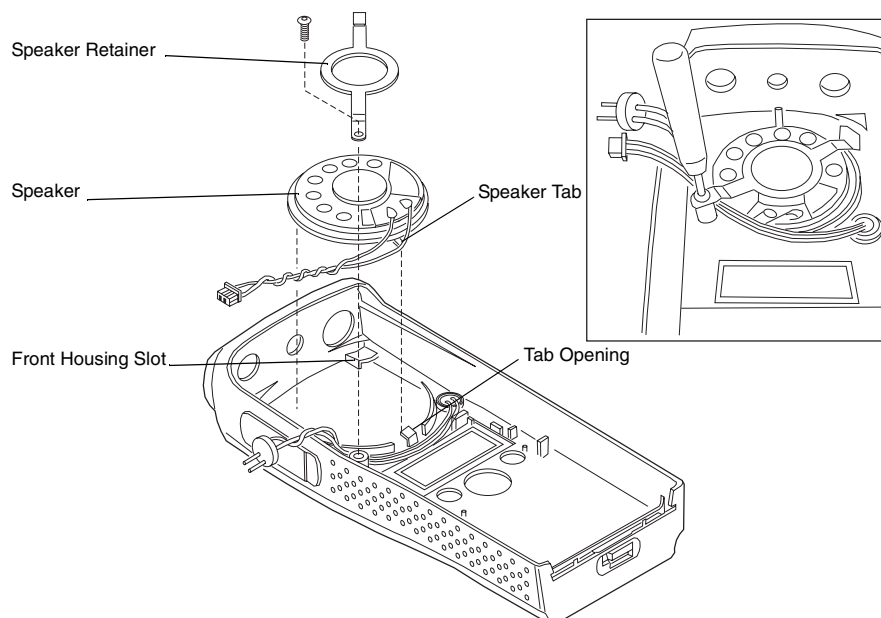

Figure 7-13. Speaker Re-assembly
4. Locate the speaker tab and align it with the tab opening in the front housing (Figure 7-13).
6. Insert one end of the speaker retainer into the slot in the front housing (See Figure 7-13).